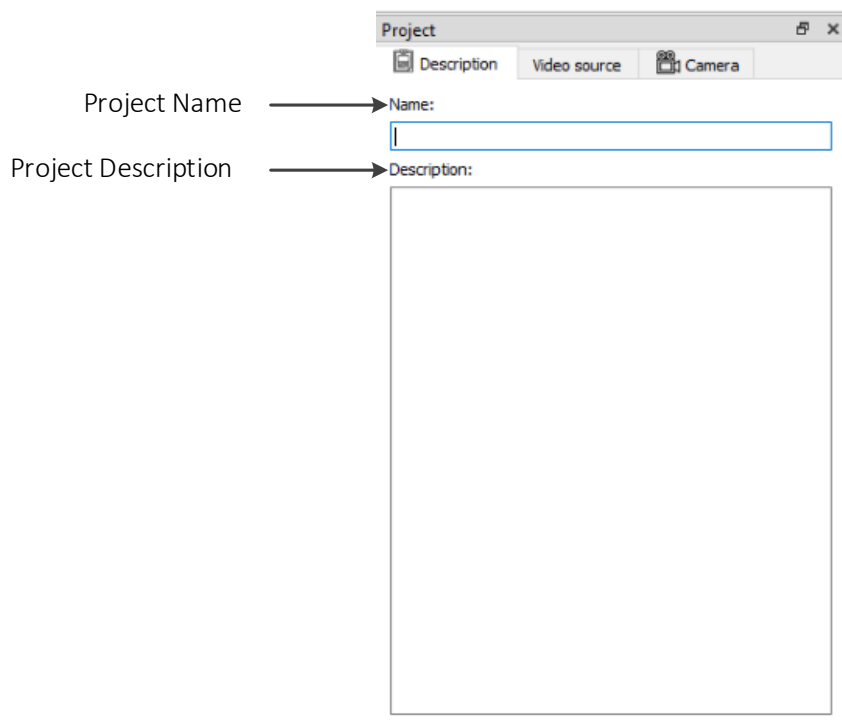

Figure 36 – New project window
2. A project window shown in Figure 36 will be opened.